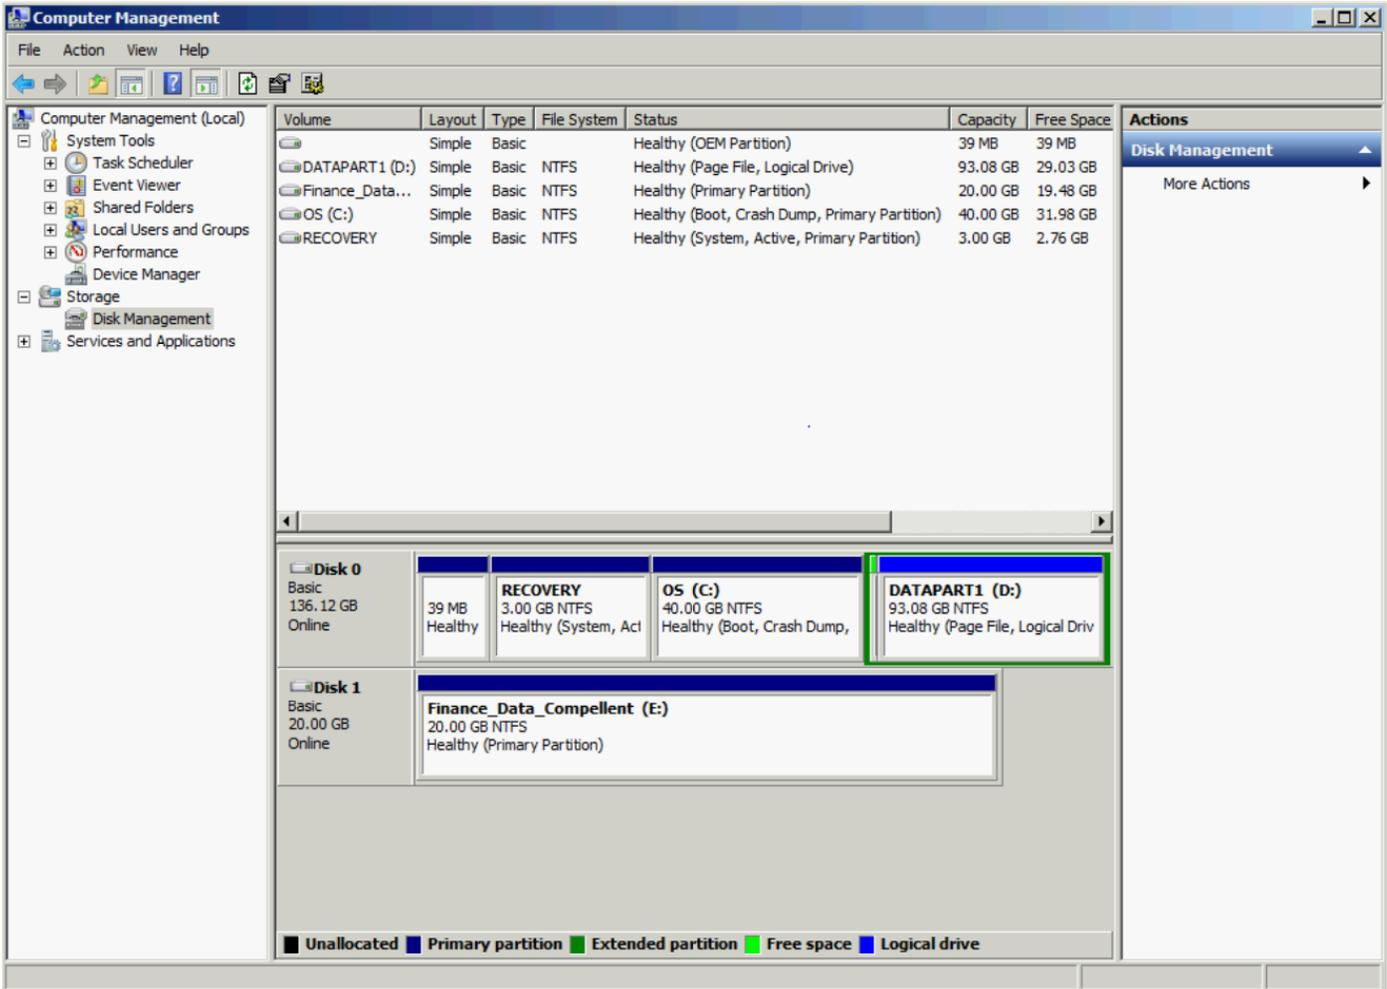

Figure 36 Initialized and formatted virtual disk within Windows Server 2008 R2 Enterprise
11. As soon as the FCoE adapter on the Windows server detects storage available for it, it will be detected in the Windows disk management administration tool after performing a disk scan. To perform a disk scan, right click **Disk Management** on the left-hand pane and select **Rescan Disks**. You must right click the detected virtual disk and initialize it. Below in Figure 36, you can see the disk (Disk 1) has already been initialized and formatted as **NTFS**.